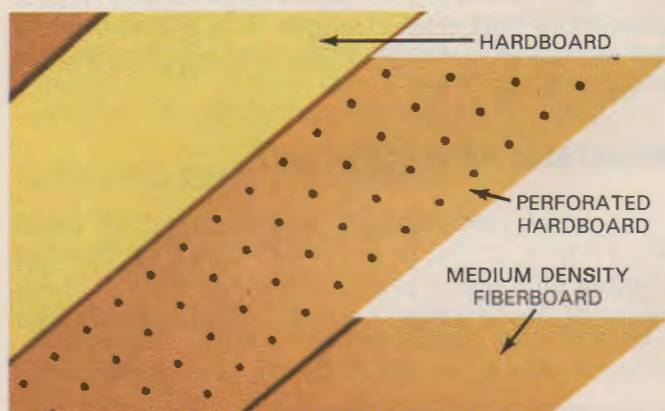

Fig. 13-20. Fiberboards may replace lumber or plywood for many applications. (Georgia-Pacific Corp.)
- *Perforated*. Round, evenly spaced holes are drilled or punched, refer to Fig. 13-20. Perforated hardboard is often called pegboard. Metal hangers
Medium density fiberboard (MDF) is manufactured in much the same way as hardboard, but in greater thickness. It is also formed with less pressure. Refer to Fig. 13-20. The added thickness, lack of grain pattern, and smooth texture of MDF make it ideal for replacing solid lumber. It is the base material for stained, painted, printed, or laminated applications. MDF is commonly used for furniture tops, drawer fronts, mouldings, cabinet construction, shelving, and various millwork.